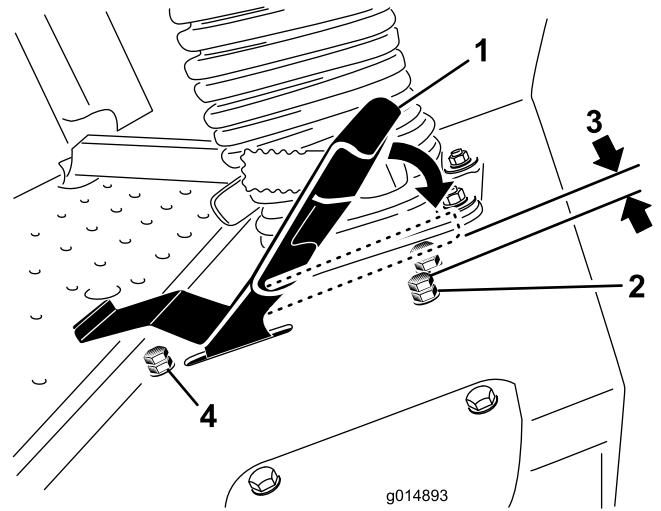

Figure 39
3. Loosen the jam nut on the stop bolt for the traction pedal (Figure 39).